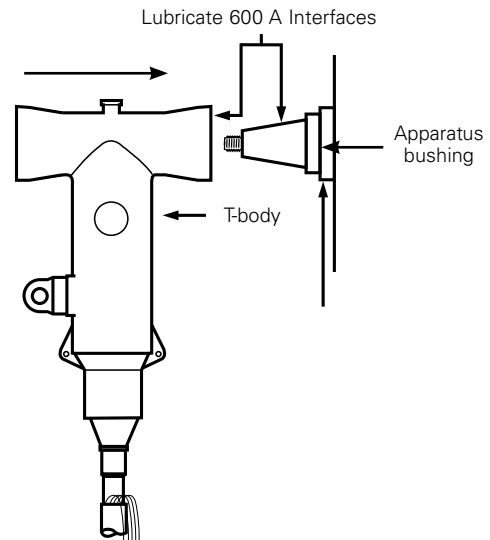

Figure 26. Line illustration of BT-TAP connector installation onto apparatus bushing.
- Push T-body onto apparatus bushing ensuring that the stud on the bushing passes through the hole of the compression connector. See Figure 26.